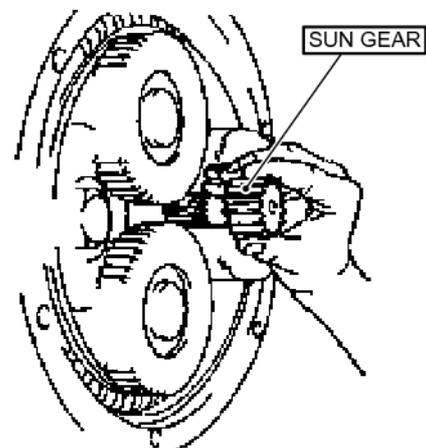

Fig. 8-5
9. Remove the thrustplate and sun gear. See Fig. 8-5
10. Carefully remove "Sun gear" from the planetary gear assembly by hand and lay it aside. See Fig. 8-5.